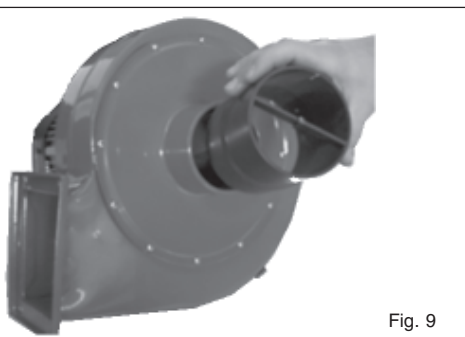

Fig. 9
7. Secure the flexible tube to the connector to mount to the escape at the outfeed of the suction fan (**Fig. 9**). Or disconnect this flexible tube and connect the wood machine's one using the appropriate flexible tube and the corresponding closing strap.